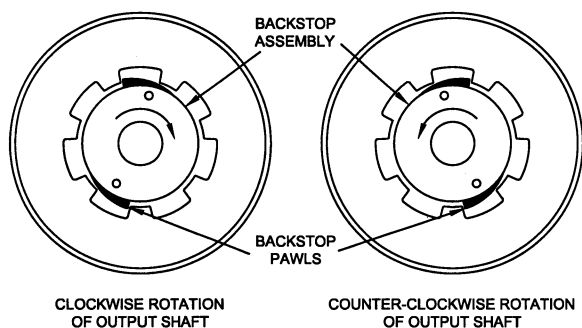

Figure 6.3.4.5 Backstop on Input Assembly
**NOTE:** The desired rotation of the reducer is determined by viewing thru the output shaft side. Reference Figure 6.3.4.5 for orientation of the backstop after being assembled onto the input shaft.